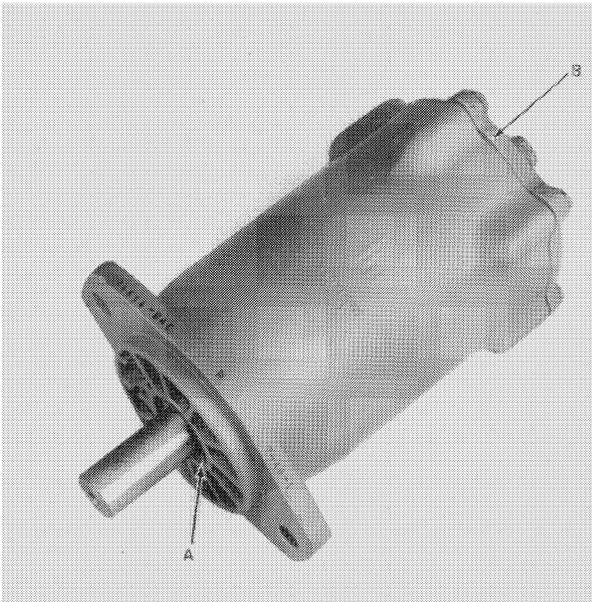

FIGURE 22
2. Remove retaining ring from housing assembly, A, Figure 22.